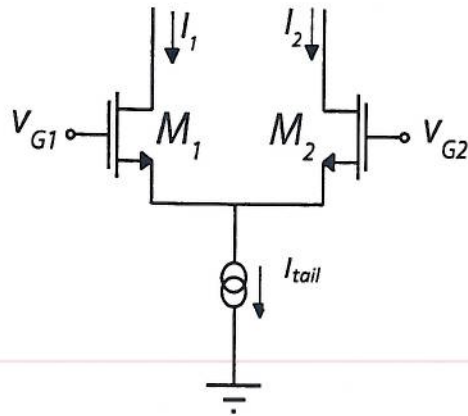
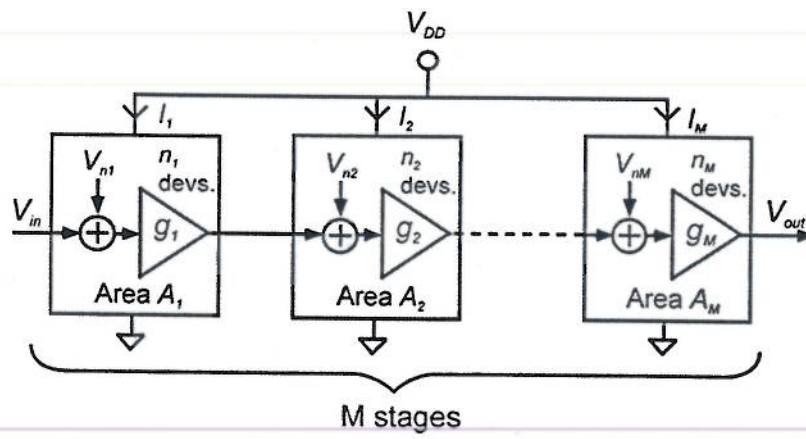

Figure 1.1
Figure 1.2
b) The differential pair transconductor shown in Figure 1.1 has MOS transistors which are operating in the weak-inversion region of operation with a slope factor $n = 1.23$.
iii) Show that the small signal transconductance is given by $g_m = I_{tail}/2nU_t$ and thus derive the transconductance efficiency of the circuit in Figure 1.1
c) Figure 1.2 shows a cascade of amplifiers where each stage uses the circuit from Figure 1.1. The total noise at the output is given by equation 2. The total stages $M = 2$ and the constant $P = 1$ for weak inversion operation. Also assume that the total noise contribution is due to the two input devices of the differential pair ($n_i = 2$) and the gain of each stage is given by $G_i = -g_m R_{out}$, where g_m is the transconductance derived in question 1.b.iii and $R_{out} = 1 \text{ M}\Omega$.
iii) Given that the system shown in Figure 1.2 operates on a Bluetooth signal at 2.4 GHz , but conveys audio information at 44 kHz , propose one method to reduce the power consumption requirements before quantizing the analogue signal.